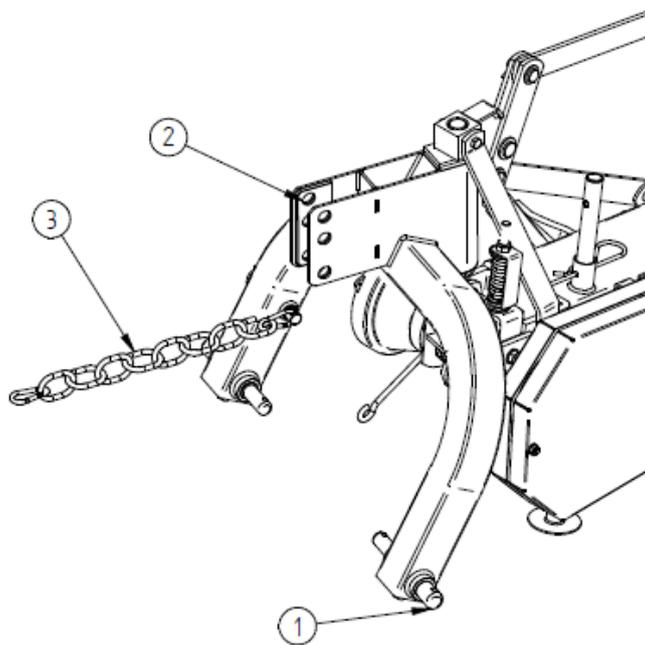

Figure 9 Aggregating – connecting the mower
1. On the pins (Fig. 9, item 1) of the suspension frame, fit the tractor's lower connectors (first left, then right), and secure them with linchpins.
2. Insert the top connector's tip between the yoke plates, using the holes (Fig. 9, item 2), then connect with a pin and secure with a linchpin.